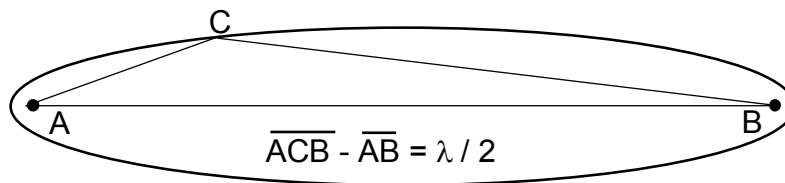

Figure 6.3– Fresnel Zone Definition
The Fresnel zone is a long ellipsoid that stretches between the two antennas. The **first** Fresnel zone is such that the difference between the direct path (AB) and an indirect path that touches a single point on the border of the Fresnel zone (ACB) is half the wavelength (see figure 6.3).